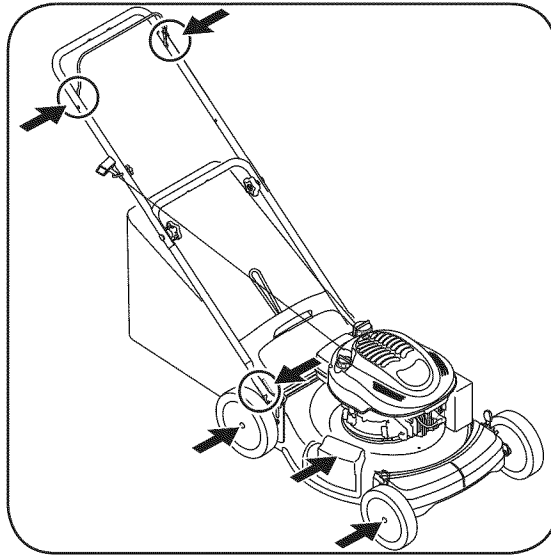

Figure 5-1: Areas of lubrication.
- Lubricate pivot points on the blade control at least once a season with light oil. The blade control must operate freely in both directions. See Figure 5-1.
- Lubricate the wheels at least once a season with light oil (or motor oil). If wheels are removed for any reason, lubricate surface of the pivot arm and inner surface of the wheel with light oil. See Figure 5-1.
- Lubricate the torsion spring and pivot point on the rear discharge door and side mulch plug periodically with light oil to prevent rust. See Figure 5-1.